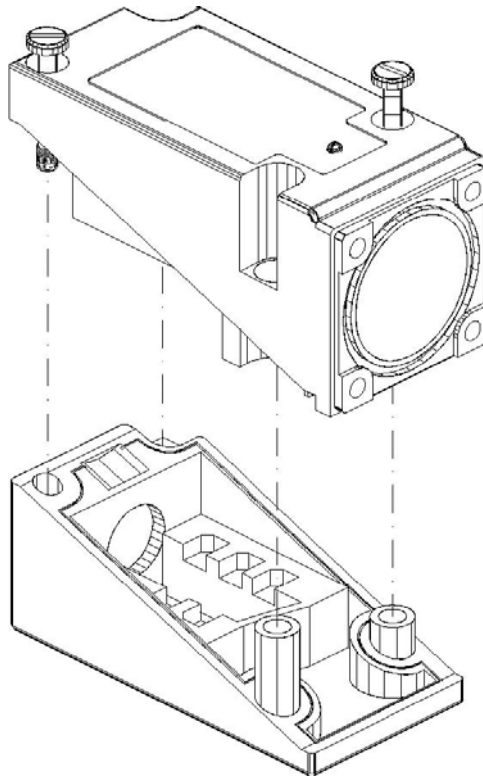

Figure 3-2. C827 disassembly
2. Loosen the two captive screws in the interface block and separate the two parts as shown in Figure 3-2.